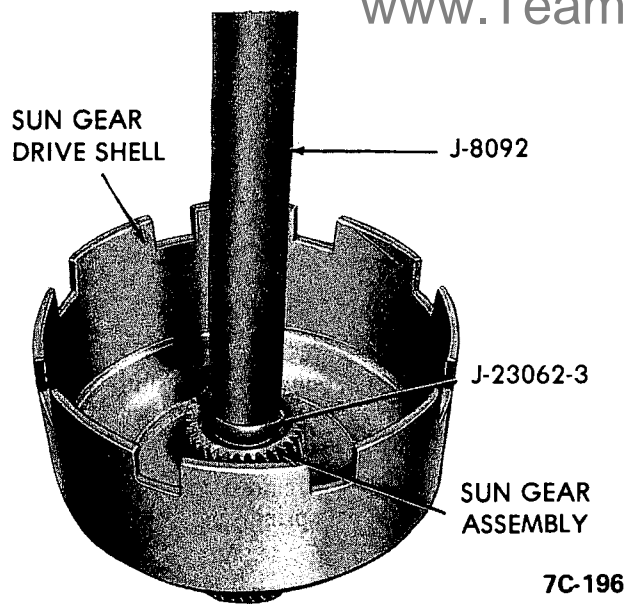

Figure 7C-128 - Bushing Installation
2. Install sun gear to drive shell flat thrust washer. See Figure 7C-125.
3. Install sun gear to sun gear drive shell rear retaining ring. See Figure 7C-124. Use a new ring and do not overstress when installing.